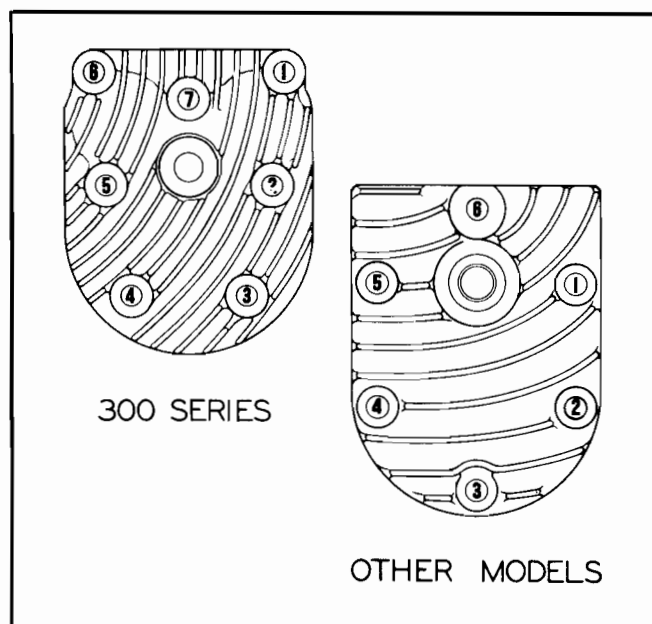

Figure No. 67—Cylinder Head Tightening Order
2. Tighten all cylinder head bolts lightly and pull each bolt down a little at a time in accordance with the order shown (See Figure No. 67).